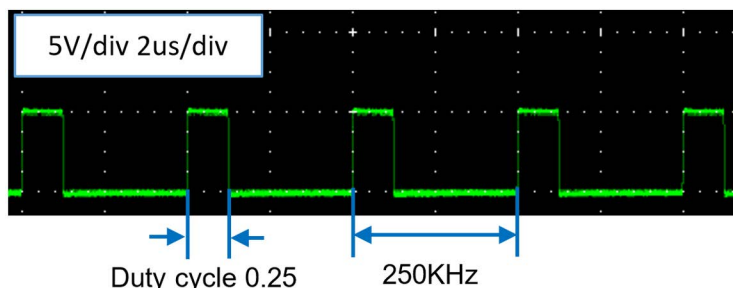

Figure 15. PWM Signal
2. Set up PWM signal on the signal generator as shown in Figure 15, then turn on the PWM signal to the board.